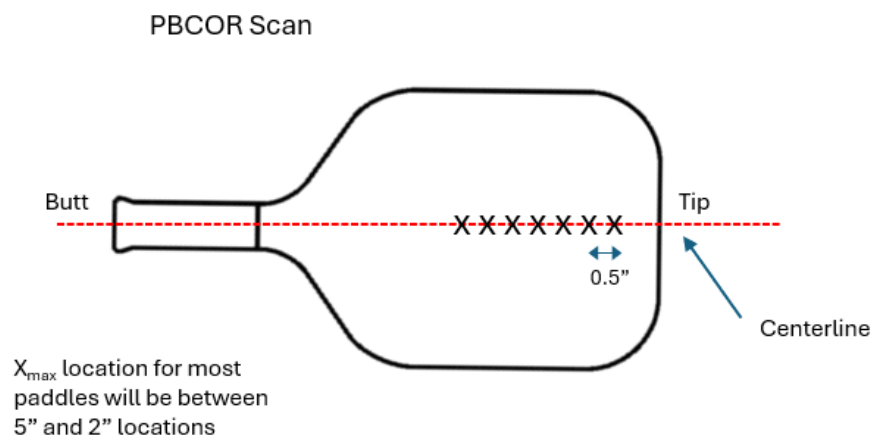

Figure 6
- a. To find the maximum PBCOR location, ' X_{max} ', a PBCOR scan must be performed along the face of the paddle (refer to Figure 6). Moving in half inch increments down the centerline of the paddle, PBCOR values shall be measured at each location. For clarity, the identification of ' X_{max} ' has been satisfied once the PBCOR values for locations, along the centerline, on either side of X_{max} have been found whose PBCOR values are at least 0.003 less than $PBCOR_{max}$.